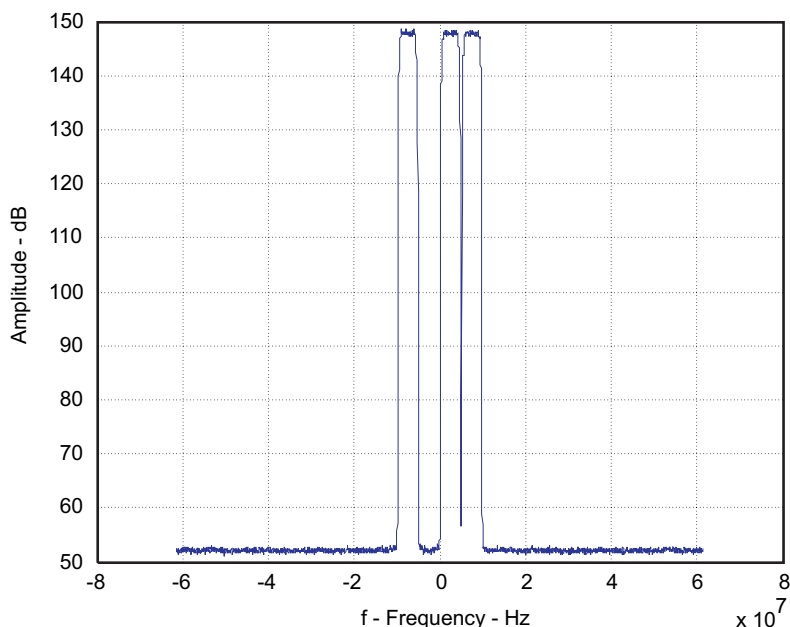
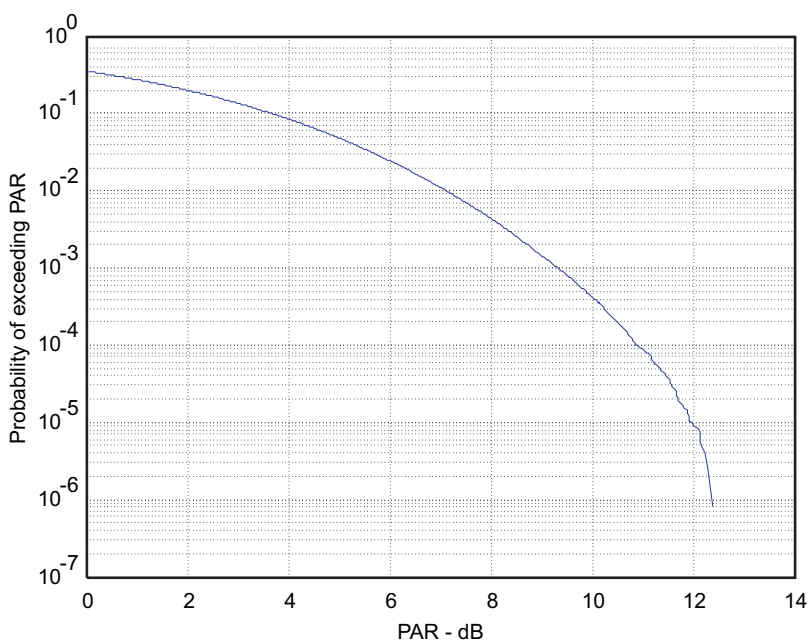

Figure 31. FFT of Three Carrier WCDMA TM1 Pattern
Figure 32. CCDF of Three Carrier WCDMA TM1 Pattern
4. Click the **Create** button. The CCDF and FFT windows display the signal characteristics shown in Figure 31 and Figure 32.